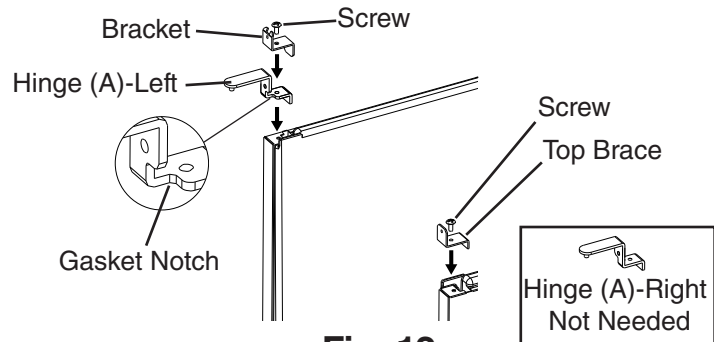

**Fig. 10**
- 5) While maintaining a hold on the door, remove the hinge stop pin from hinge (B). Pull out the bottom of the door slightly and gently remove the door from hinge (A). See Fig. 10. If you are leaving the door right-hinged, skip to step 7. If you would like to reverse the door swing, proceed to step 6.